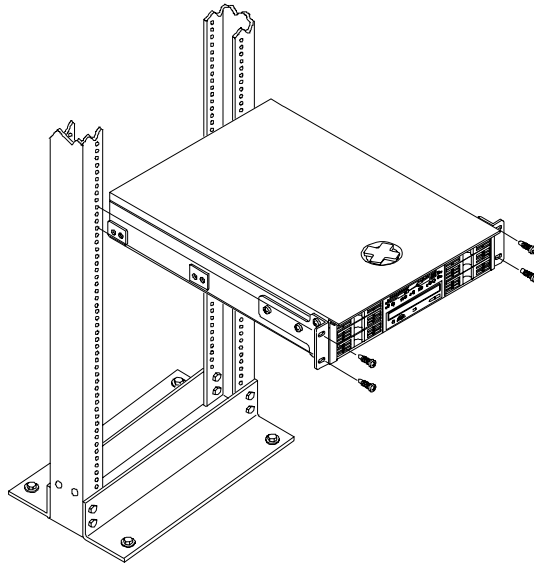
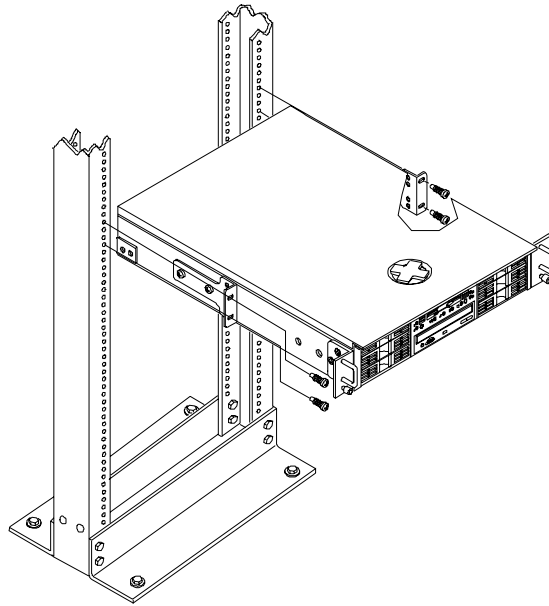

Figure 8-6. Flush Mounting the HP Netserver
Figure 8-7. Center Mounting the HP Netserver
3. Insert a screw through the bottom hole on each bracket and tighten the screws sufficiently to hold the HP Netserver in place while you insert and tighten the remaining screws. See Figure 8-6 or Figure 8-7.